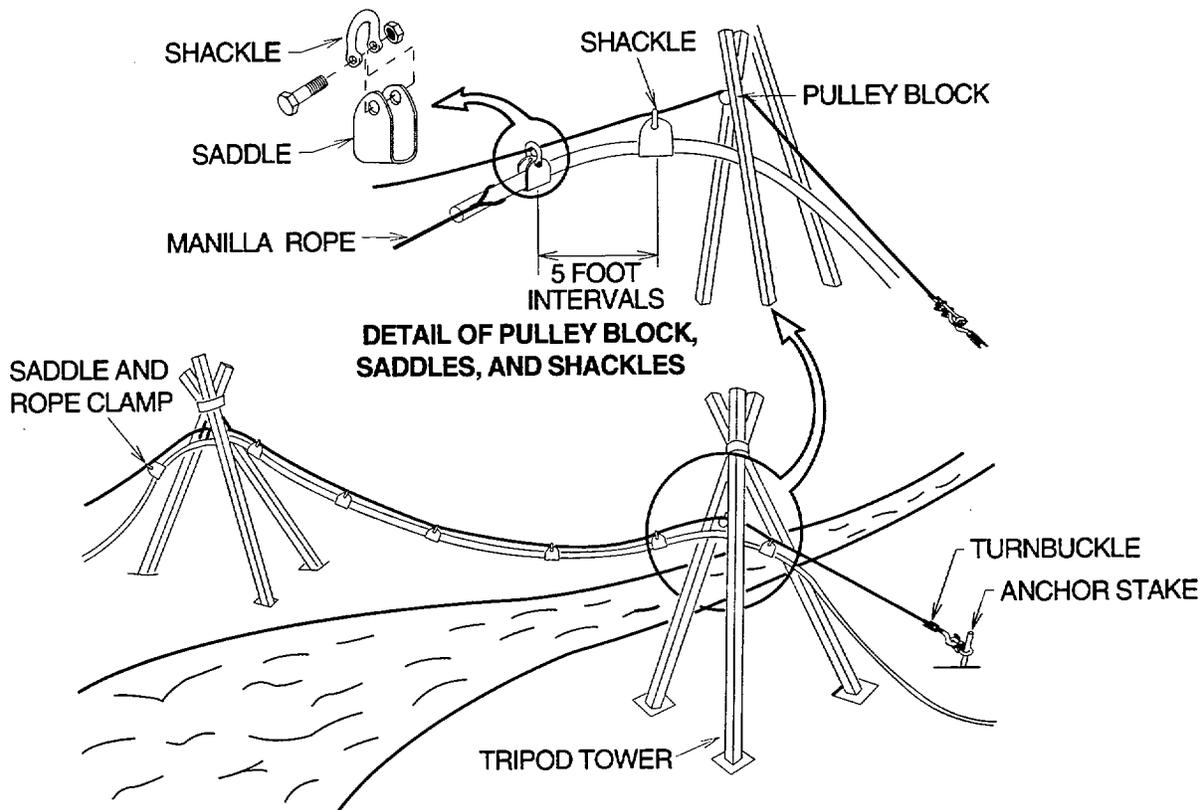

Figure 4-22. Suspension Kit Installation
- (e) Make a loop of the wire rope approximately 6 inches from one rope end and insert thimble into loop (figure 4-22).